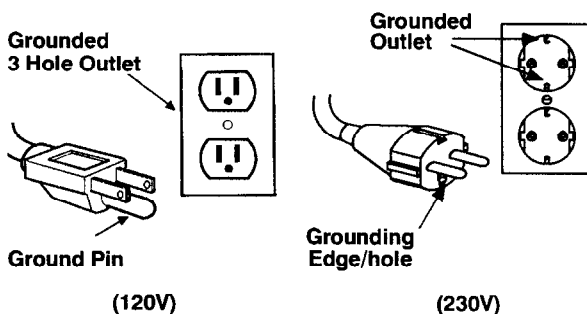

FIG. 2.
2. Plug power cord into a grounded wall outlet. (Figure 2)